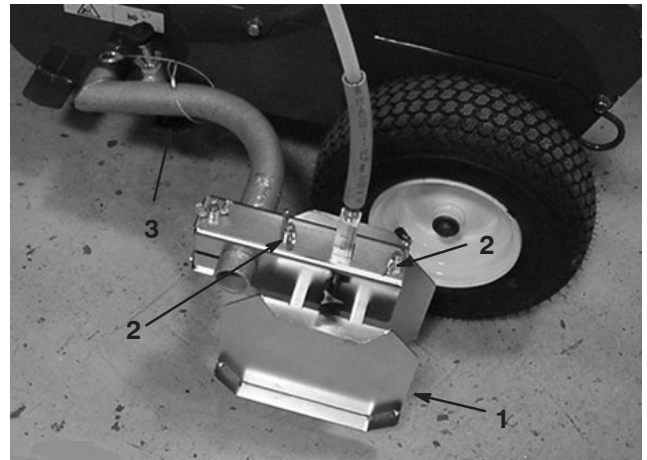

Figure 21
1. Loosen the wing nuts securing the spray shields to the boom arm (Fig. 21).
2. Move the shields (Fig. 21) in or out until the desired line width is attained. Make sure each shield is equal distance from the spray nozzle.